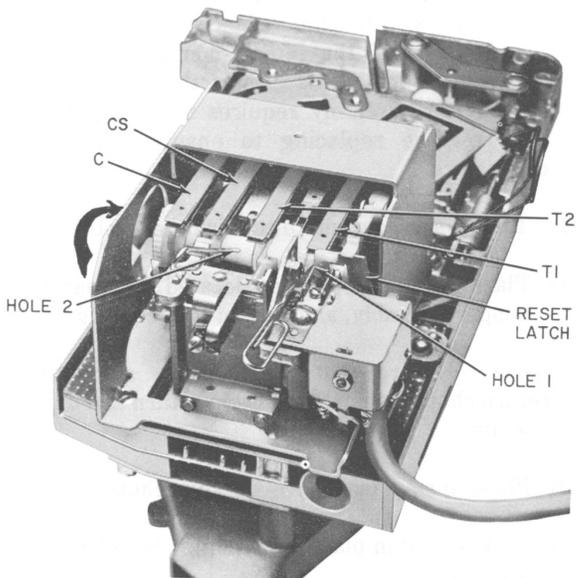

Fig. 6—Setting Totalizer Rate
Note: Totalizers are preset at the factory for an initial rate of 10 cents. If initial rates other than 10 cents are required, they may be reset (see Fig. 6). Two KS-16750, List 2 releasers or two paper clips are used to set the totalizer.
Use extreme care when resetting totalizer. Avoid damaging pawl and spring pile-ups. Do not attempt to turn totalizer cam shaft in direction opposite to that shown in Fig. 6.
- (1) Remove totalizer cover by loosening captive cover screw.
- (2) Rotate totalizer shaft in proper direction (from bottom to top) until springs T2 (Fig. 6) rest in depression in shaft as indicated by movement of springs.
- (3) Depress reset latch toward bottom of totalizer.
- (4) Rotate shaft in proper direction until contacts T1 operate as indicated by an upward movement of the reset latch.
- (5) Do not allow shaft to move. Insert one KS-16750, List 2 releaser or paper clip into hole 1 located near right-hand end of shaft. Take care not to disturb contact springs.
- (6) Hold the paper clip firmly so that right-hand end of shaft cannot move.
- (7) Insert the second releaser or paper clip into one of four holes indicated as hole 2 in center of shaft. Do not allow end of releaser or clip to extend too far beyond shaft; this may damage insulation of coil located directly beneath shaft.
- (8) Rotate second releaser or clip in proper direction until springs T2 come to rest in depression in shaft. This is zero rate position. Do not remove releasers or clips from holes in shaft.
- (9) Set desired charge rate by further rotating shaft in proper direction according to Table B.
- (10) Remove releasers or paper clips.